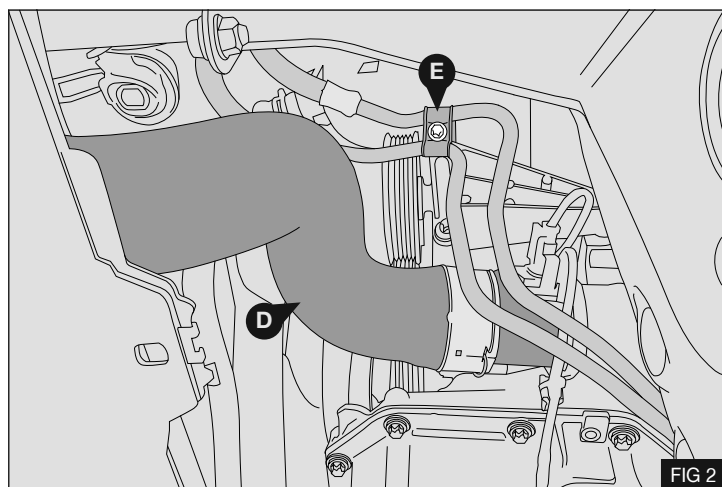

FIG 2
3. Remove and retain intercooler hose (D) and pipe securing clamp (E) – Fig 2